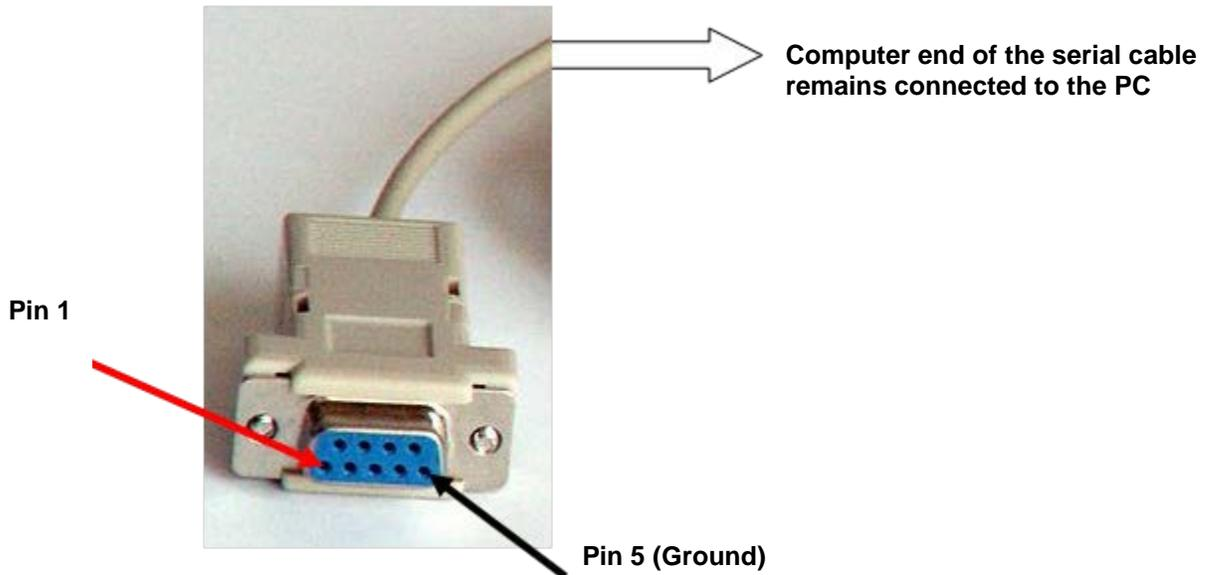

Figure A-20: Probing Serial Cable
- c. Disconnect the ZENO® end of the serial cable, but leave the computer end connected. Use a multi meter set to VOLTS (DC), and touch the red probe to pin 1 and the black probe to pin 5 on the ZENO® end of the serial cable (see Figure A-20). Write down or take note of the voltage level. With the HyperTerminal session disconnected (see *Status Bar* near the bottom of the HyperTerminal window), the voltage should be **LOW** (i.e., in the range of -25V to +2.0V). In the HyperTerminal window, press **<enter>** to connect HyperTerminal to the ZENO® data logger. Verify the voltage level has changed, is **HIGH**, and has a magnitude greater than +3.0 V. Toggle between **CONNECT** and **DISCONNECT** (Call menu, **Disconnect**) in HyperTerminal. The voltage at the end of the serial cable should be